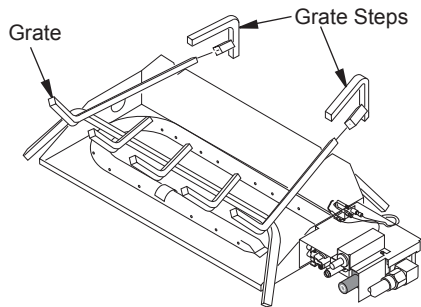

Figure 14 - Installing Grate (Pan Material Not Shown)
2. Slide two rear log grate steps over two outer horizontal supports on grate as shown in Figure 14.